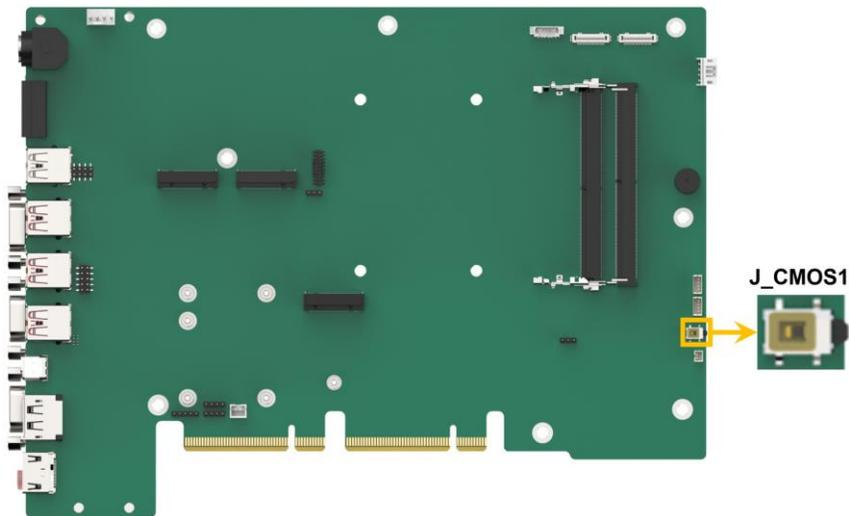

Figure 4-14: Clear CMOS Location
- CN Location:** See **Figure 4-14**